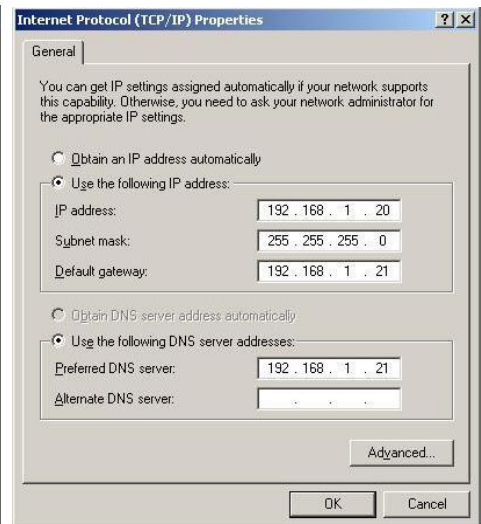

Figure 4
- ▶ Configuration example (figure 4) when no DHCP server is available.